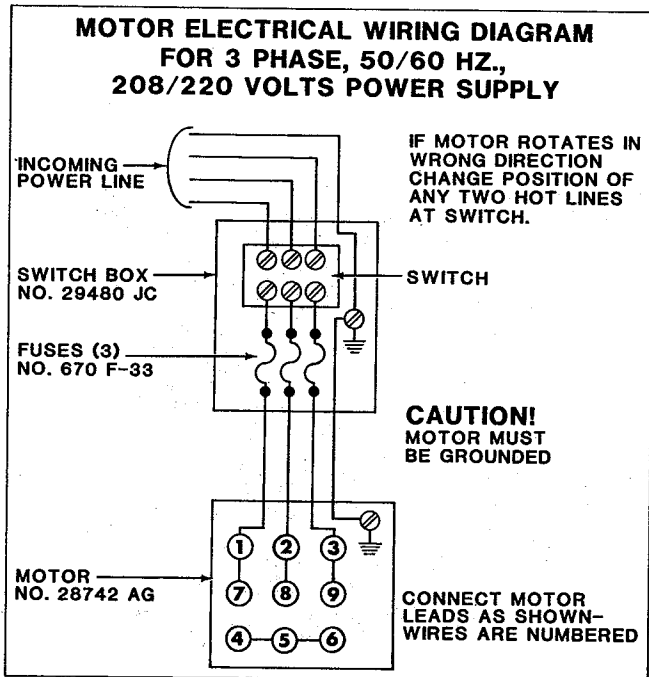
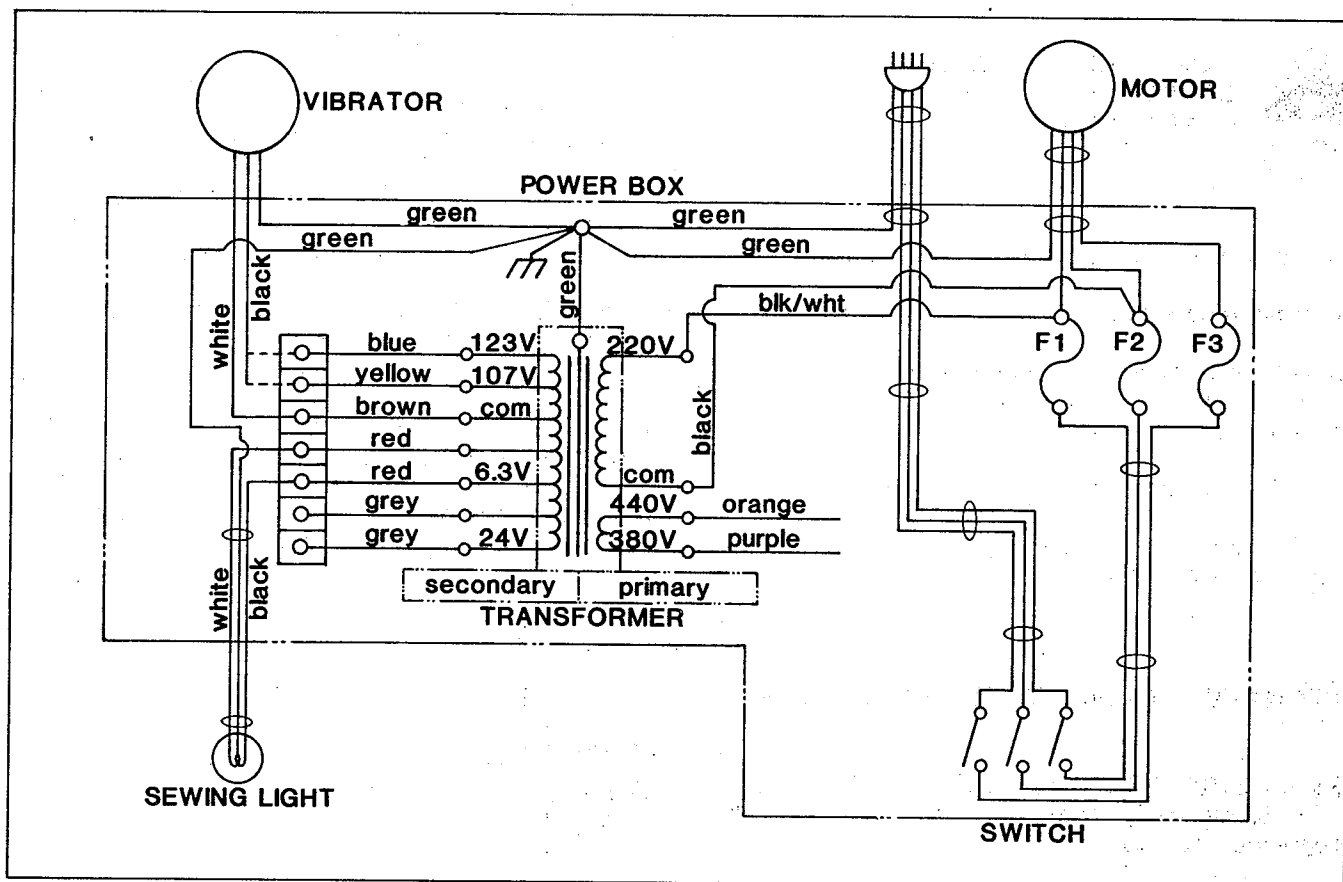
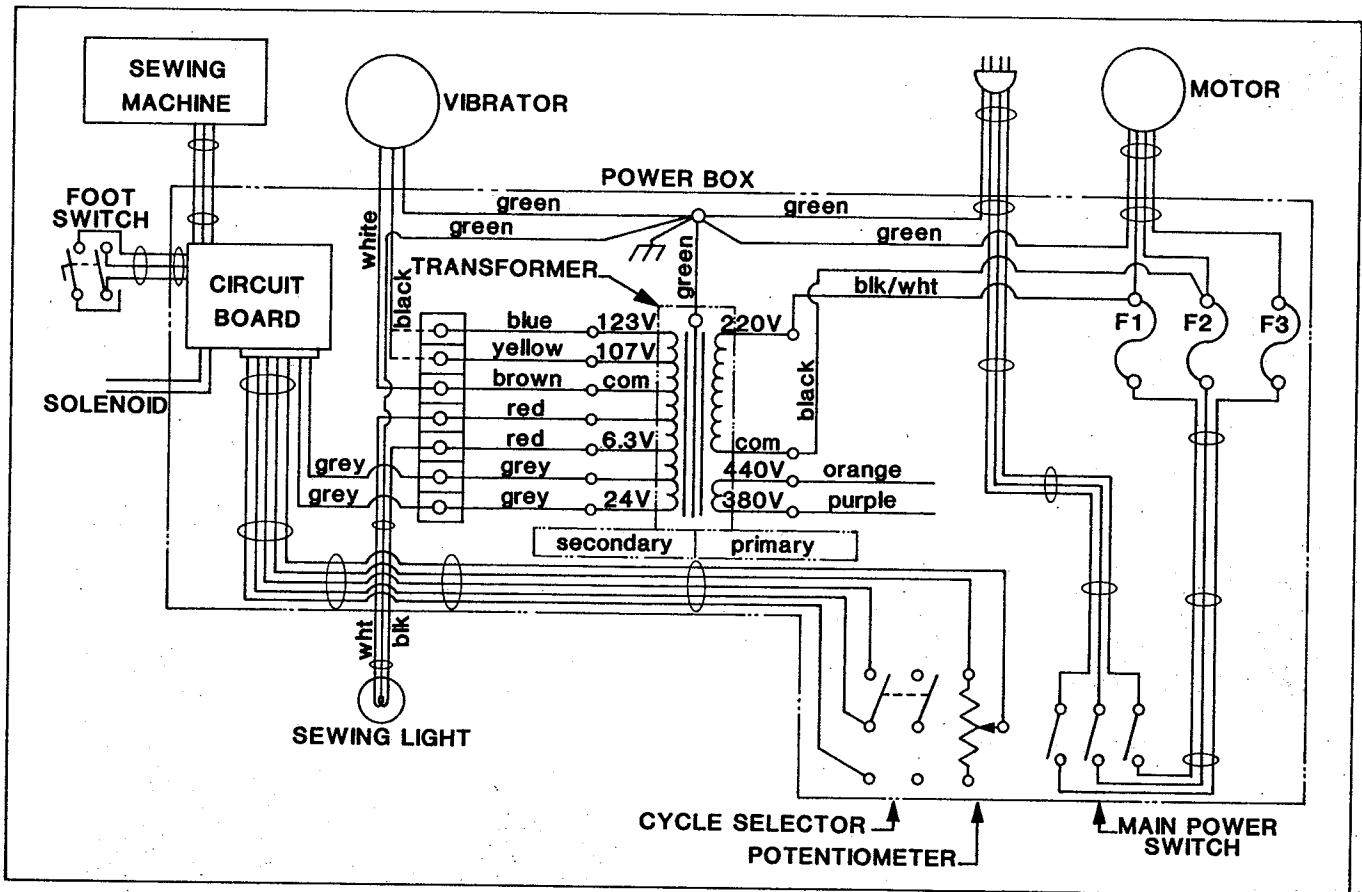

Fig. 3
Fig. 7
Fig. 10
**CAUTION!** Motor No. 28742-AG must be wired according to the voltage at power source. Instructions for proper wiring are shown in wiring diagrams (Figs. 3 and 4).
Use wiring diagram (Fig. 7) for reference when making the following connections. Connect the incoming power leads to the upper three terminals of the power switch. Connect the ground (green) lead to the brass grounding screw. Connect the motor leads to the side tabs of the fuse holders with ground to the same brass grounding screw. Connect the motor leads as explained in Figs. 3 and 4.
If the rotation is in the opposite direction see instructions (Figs. 3 or 4).
Use wiring diagram (Fig. 10) for reference when making the following connections. Connect the incoming power lead to the upper three terminals of the power switch. Connect the ground (green) lead to the brass grounding screw. Connect the motor leads to the side tabs of the fuse holders with ground to the same brass grounding screw. Connect the motor leads as explained in Figs. 3 and 4.